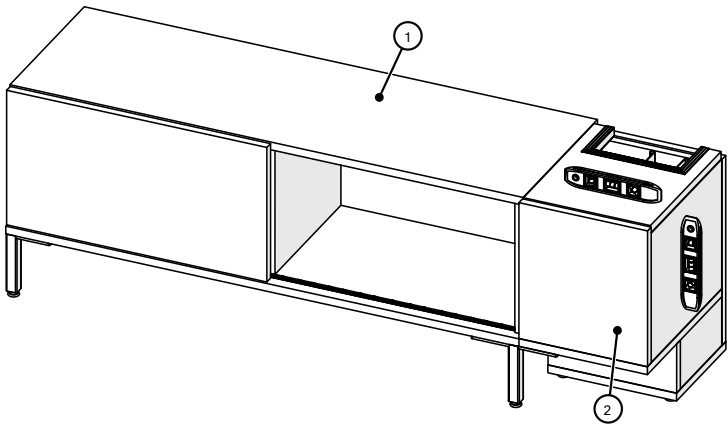

Figure 1
2. Level/align the HAT integration box from front to back and side to side by rotating the adjustable glide counterclockwise to extend the glide and raise the storage unit, (Figure 1).